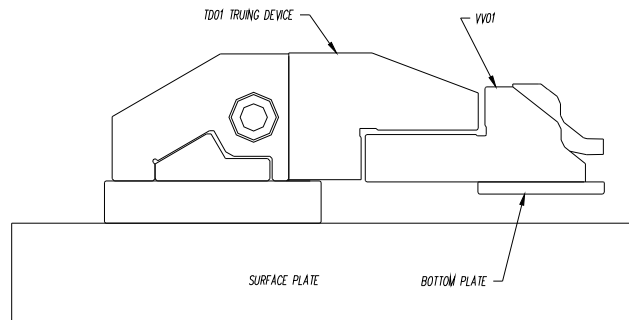

Figure 16
STEP 32. Place the vertical vise/TD01 without the work piece onto the MCD01 or PS01 lower station but do not torque the torque handle down to locking position. . Lower the torque handle until the wedge of the MCD01 or PS01 draws the vertical vise/TD01 snug but not tight as shown in Fig. 16.